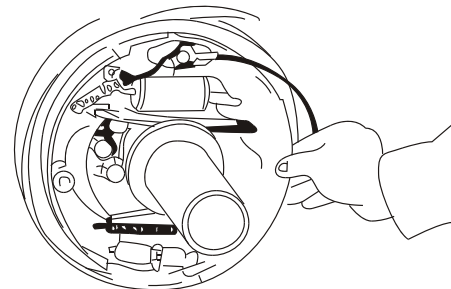

Fig.5-10
(4) Remove the primary and secondary shoes along with the adjuster and adjuster spring. (See Fig.5-10)